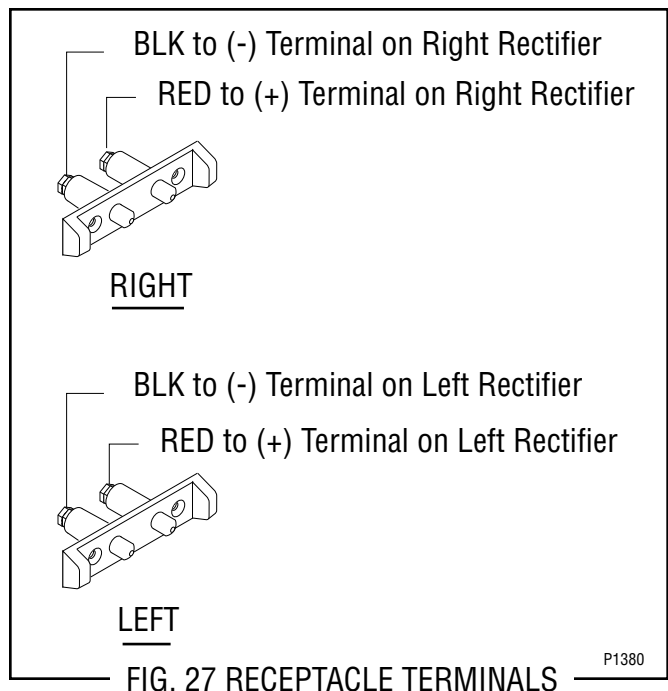

FIG. 27 RECEPTACLE TERMINALS P1380
6. Refer to Fig. 27 and reconnect the wires.